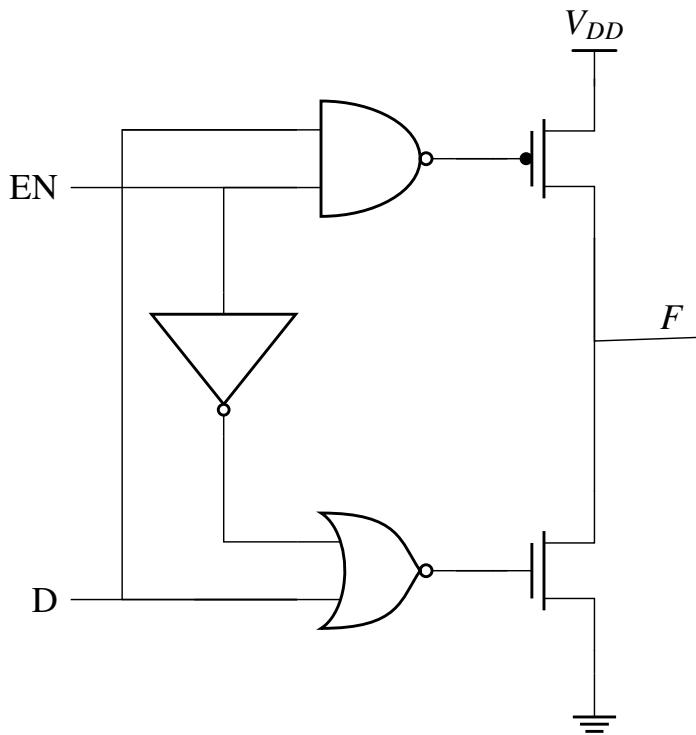

Fig. 3.24: Circuit Diagram
41. In the circuit shown in Fig. 3.24, what are the values of F for $EN = 0$ and $EN = 1$, respectively? (GATE-EC2019,14)